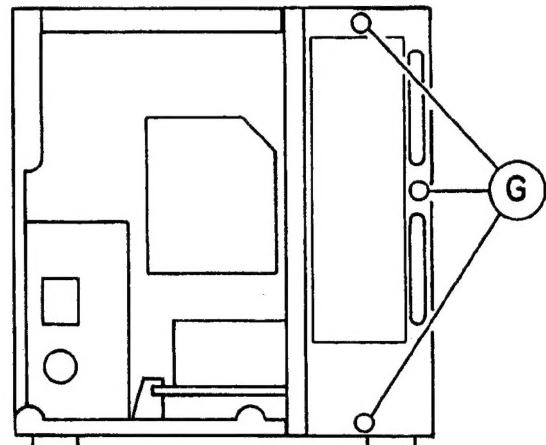

Fig. 6
- (1) Remove the 3 screws **G** of Fig. 6 to remove the AV terminal.